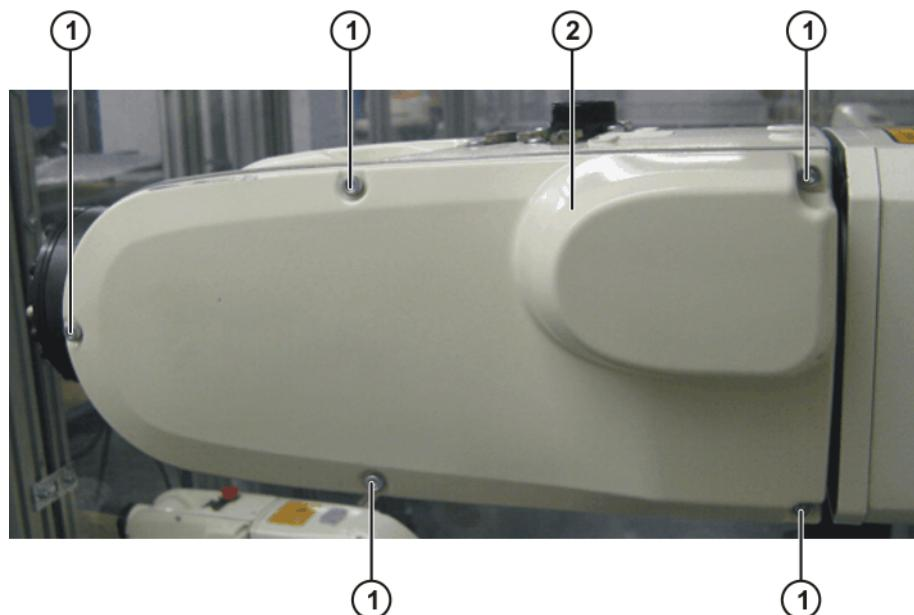

Fig. 11-6: Cover A6
1. Remove 5 screws (>>> Fig. 11-6) from the arm.
8. Mount the cover (**>>>** Fig. 11-6).